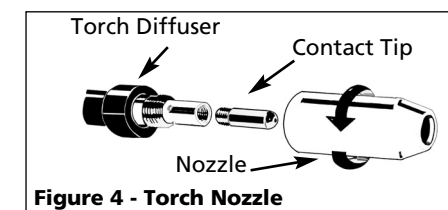

Figure 4 - Torch Nozzle
- Wire matches contact tip in end of gun. (See Fig. 4).
7. Remove nozzle by turning counterclockwise, then unscrew contact tip from end of welding torch (See Figure 4). Plug welder into a proper power supply receptacle.
9. Carefully slip contact tip over wire and screw tip into torch end. Install nozzle by turning clockwise (See Figure 4). Cut wire off approximately 1/4 inch from nozzle end.